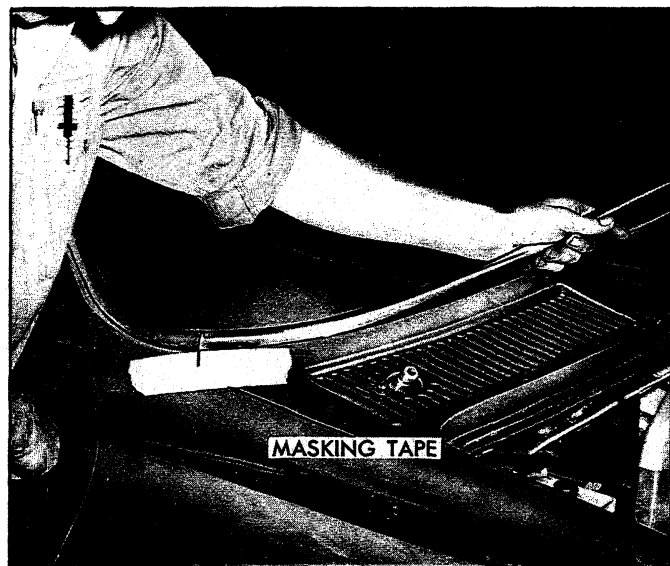

Fig. 15—Removing Lower Reveal Molding
4. Mark position of lower reveal molding as shown in Figure 15 and pry molding out of weatherstrip.